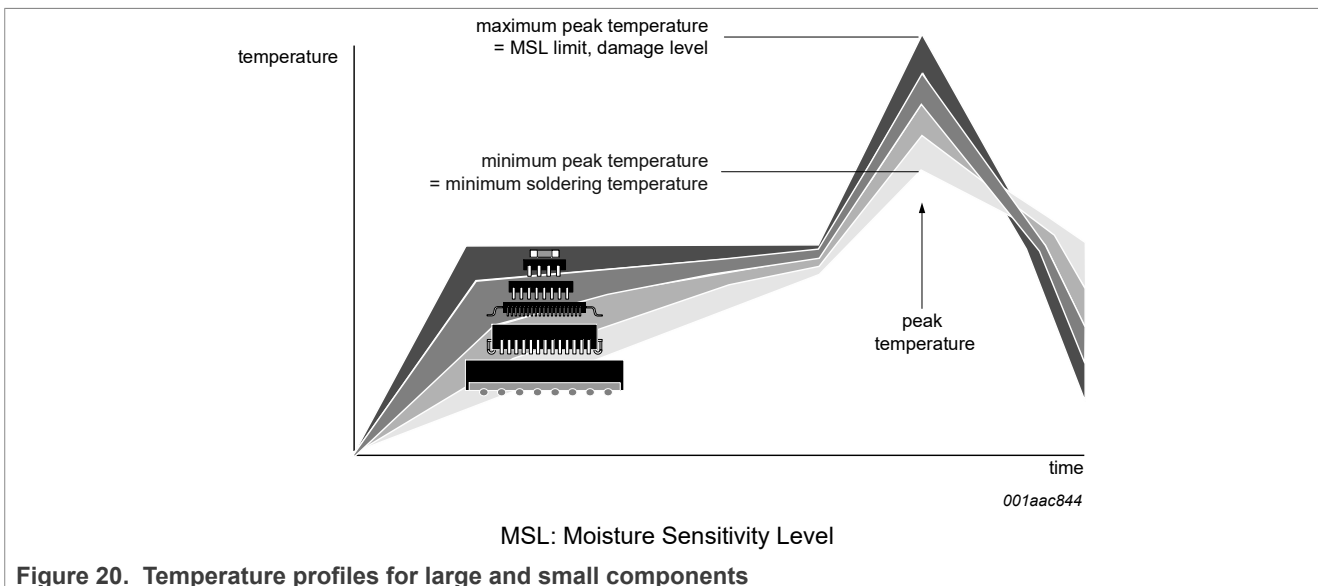

Figure 20. Temperature profiles for large and small components
- Lead-free versus SnPb soldering; note that a lead-free reflow process usually leads to higher minimum peak temperatures (see Figure 20) than a SnPb process, thus reducing the process window
Studies have shown that small packages reach higher temperatures during reflow soldering, see Figure 20.